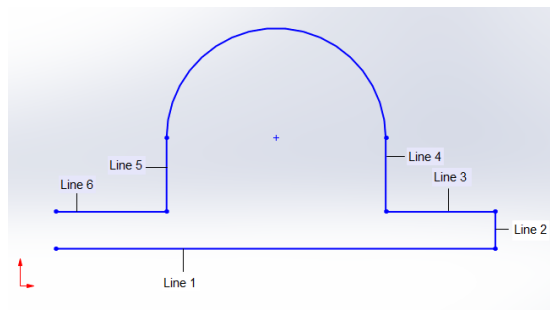

Figure 2-70 Partial outer loop of the sketch
4. Click when the length of the line above the line cursor is displayed as 120; a horizontal line is created. Refer to Line 1 in Figure 2-70.
6. Click when the length of the line above the line cursor is displayed as 10; a vertical line is created. Refer to Line 2 in Figure 2-70.
7. Move the line cursor horizontally toward the left. Click when the length of the line above the line cursor is displayed as 30; the next horizontal line of 30 mm length is drawn. Refer to Line 3 in Figure 2-70.
8. Move the line cursor vertically upward and click when the length of the line on the line cursor is displayed as 20. Refer to Line 4 in Figure 2-70.
12. Move the line cursor vertically downward and click when the length of the line on the line cursor is displayed as 20. Refer to Line 5 in Figure 2-70.
13. Move the line cursor horizontally toward the left and click when the length of the line on the line cursor is displayed as 30. Refer to Line 6 in Figure 2-70.